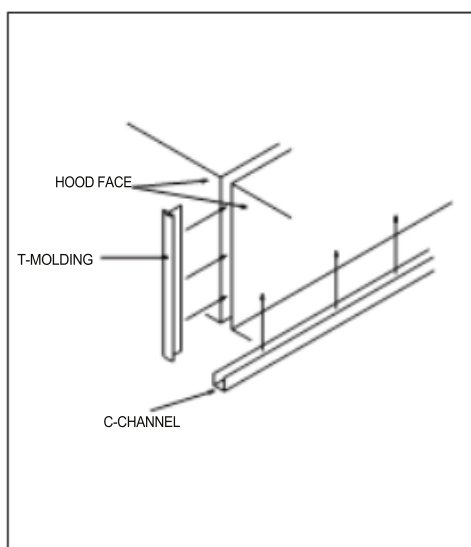

FIGURE 3
7. Install C channel where the ends of the hood meet and install T moldings on front face of hoods where they join. High temperature silicone can be used to install channel and T moldings (See Fig. 3).